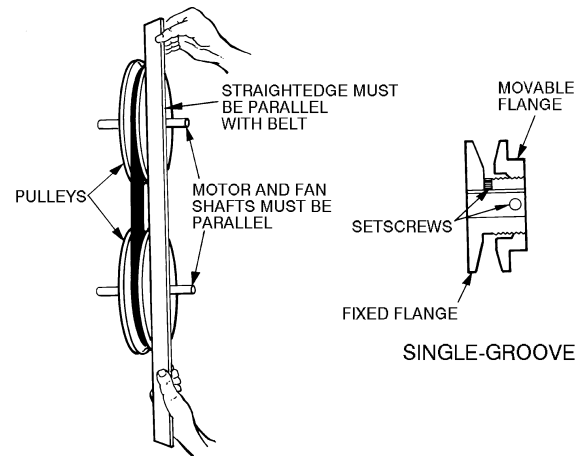

Fig. 42 — Evaporator-Fan Pulley Adjustment
3. Loosen movable pulley flange setscrew (see Fig. 42).